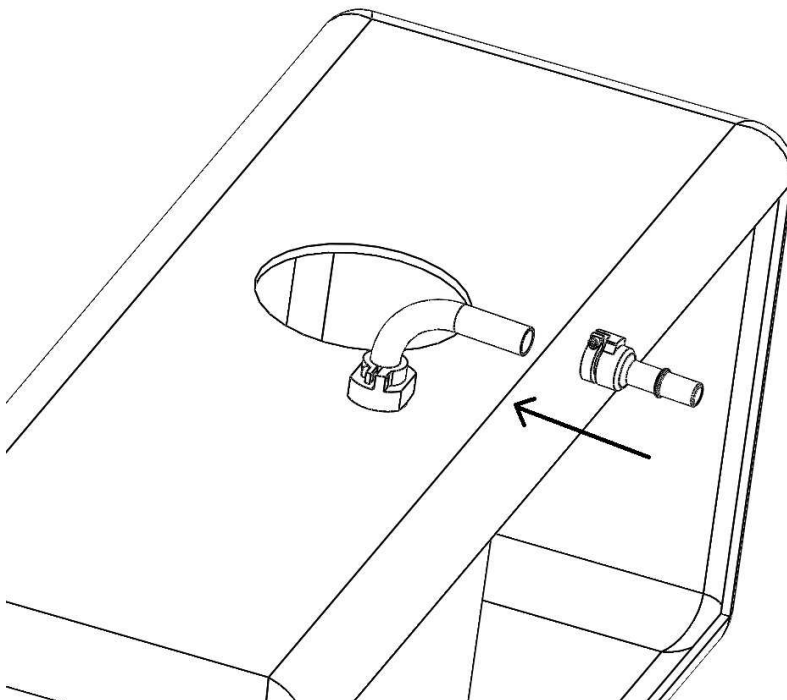

FIGURE 1-6
7. Attach the 5/8" J2044 connector onto the pickup tube. Use light oil to ease the installation, tighten clamp. **FIGURE 1-6**